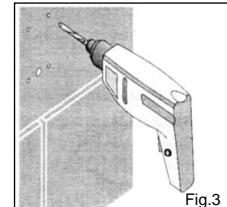

Fig.3
- Drill the fixing holes (fig. 3)